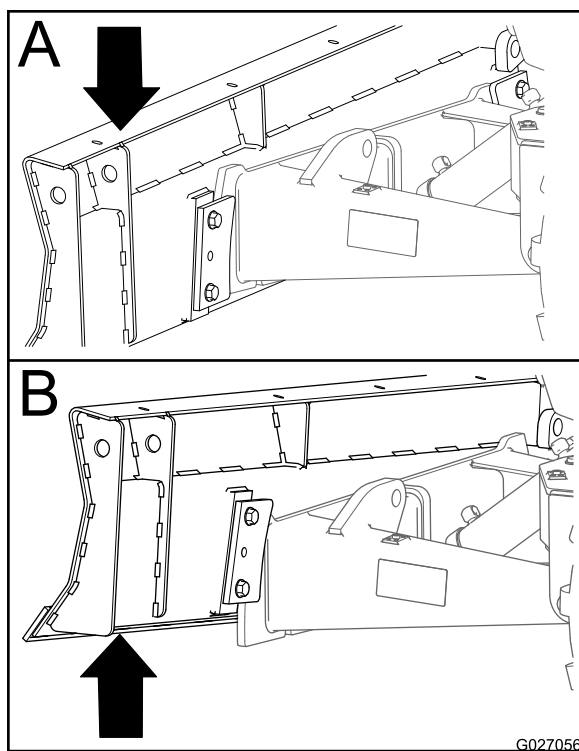

Figure 35
4. Check that the backfill blade has a slip fit moving the backfill blade by hand (Figure 35).